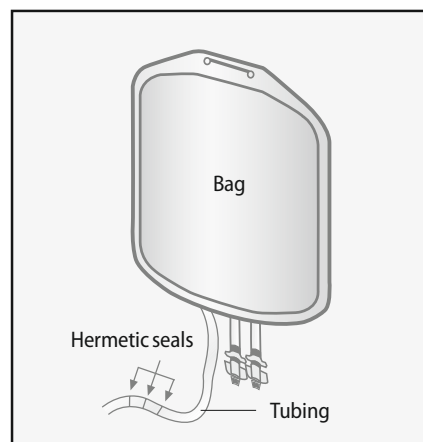

Figure 4-1.1: Sealing a bag. Use heat sealer to make the seal in the tubing. Sever at center seal.
6. Using the heat sealer, seal off the tubing and separate bags, leaving at least 15 cm of tubing on the Cell Preparation Bag for further connections (see Figure 4-1.1). Keep the original leukapheresis bag until the separation and final analysis of all cells have been accomplished.